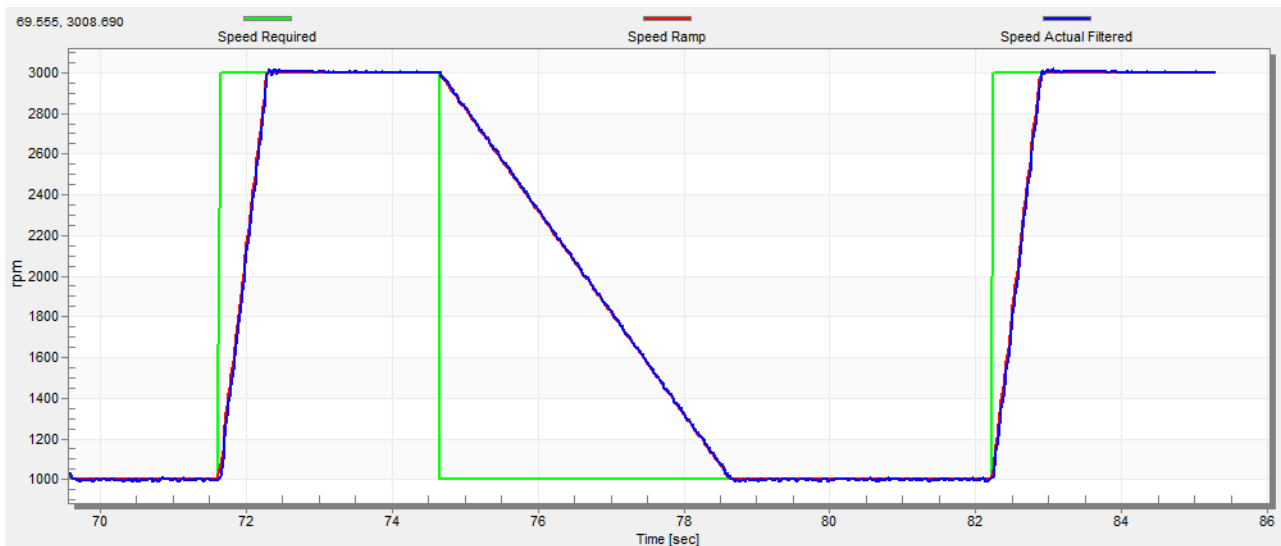

Figure 47. Speed profile
2. The increments are common for the scalar and speed control. The increment fields are in the “Speed & Pos” tab and accessible in both tuning modes. Clicking the “Update Target” button applies the changes to the MCU. An example speed profile is shown in Figure 47. The ramp increment down is set to 500 rpm/sec and the increment up is set to 3000 rpm/sec.